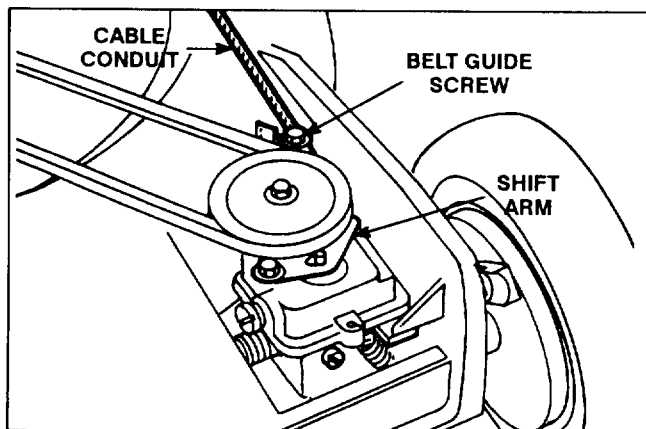

Figure 21
3. **ADJUSTMENT** (Fig. 21)—Loosen belt guide screw until cable conduit slides. Move handle—mounted wheel drive control to **DISENGAGE** position. Move shift arm toward clamp screw and hold in place. Pull cable conduit to remove slack and tighten belt guide screw.